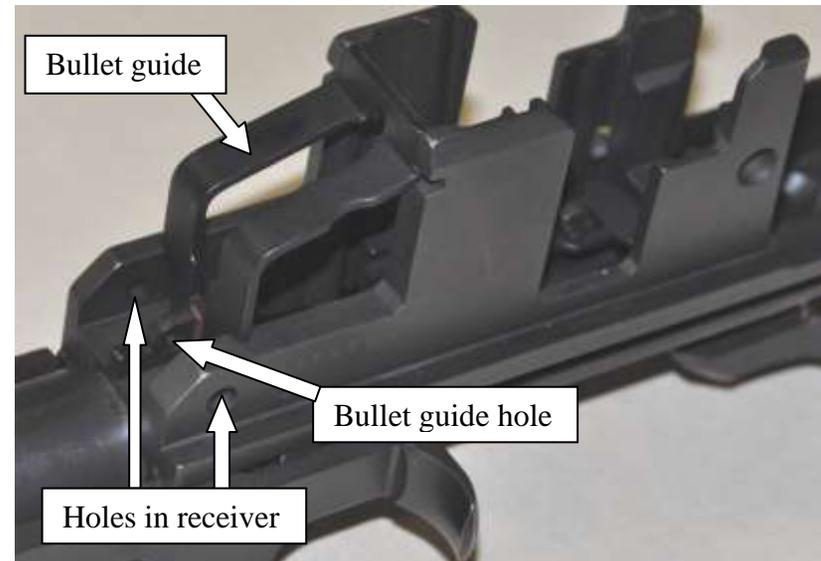

Figure 41 -Bullet guide insertion
- 6) Place the bullet guide so that its shoulders fit into their notches in the receiver and its hole is aligned with the holes in the receiver (fig 41).